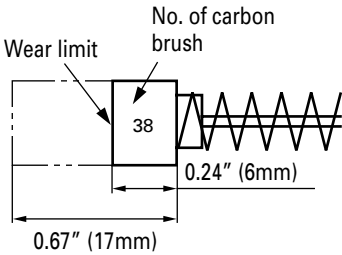

Fig. 6
4. Inspecting the carbon brushes (Fig. 6)
Use HITACHI carbon brush No. 38 indicated in Fig. 6.